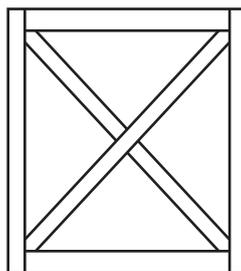

Fig. 3.1
- 3 Fig. 3.1 shows a wooden structure. State the method that has been used in the wooden structure to ensure rigidity.